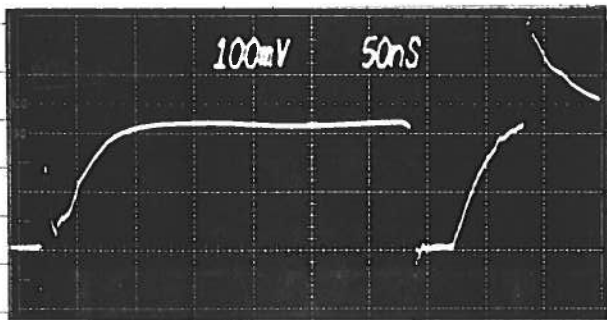

Fig 3
- 9) Increase AMP 1 to near maximum to obtain display shown in Fig. 3 (200 mA/div).